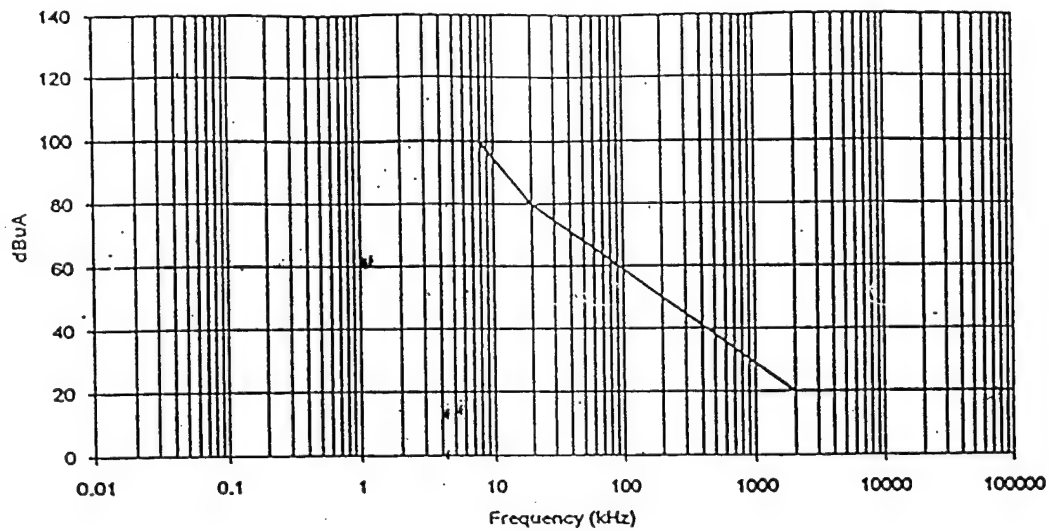

Figure 9 - Narrowband Conducted Emissions Limit
3.2.9 Electromagnetic Compatibility. The daughterboard shall pass the CE01 and CE03 tests with connected to a Line Impedance and Source Network that simulates the Experiment Panel's power outputs. The test levels shall follow CE01 and CE03, except the initial value is based on -40dB of the maximum normal operating load current. The MPTB experiment must meet the EMI requirements set in Figures 9 and 10. The MPTB designers will work with the individual experimenter designers to insure compatibility at the daughterboard level.